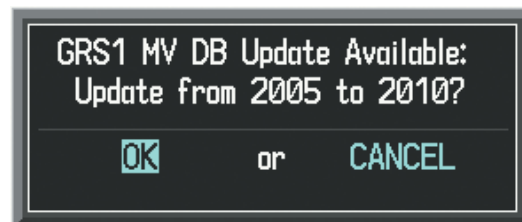
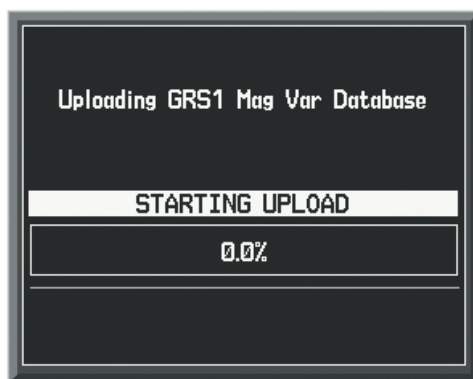

Figure B-12 GRS1 Magnetic Field Variation Database Update Prompt
Figure B-13 Uploading Database to GRS1
- 1) With 'OK' highlighted, as seen in Figure B-12, press the **ENT** Key on the MFD. A progress monitor is displayed as shown in Figure B-13.